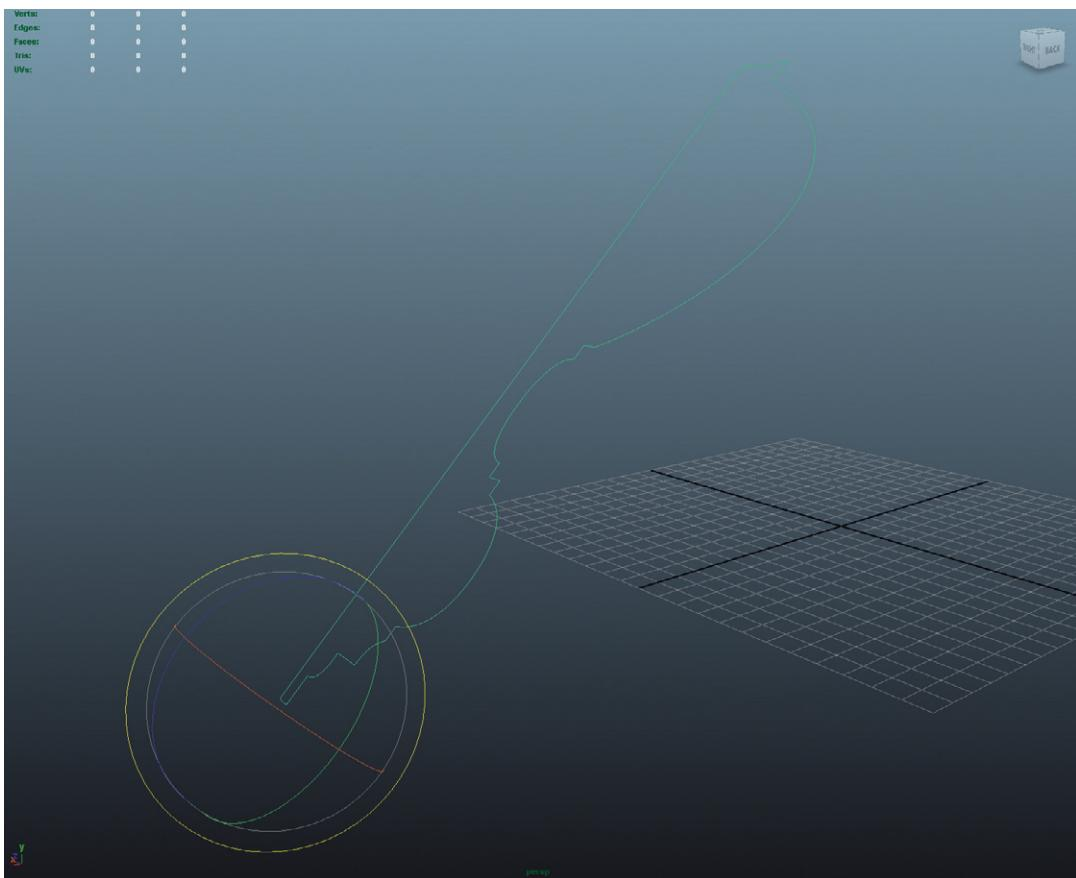

FIG 3.79 Rotated curve.
Step 16: Rotate the curve 45°, so that it roughly matches Fig. 3.79.